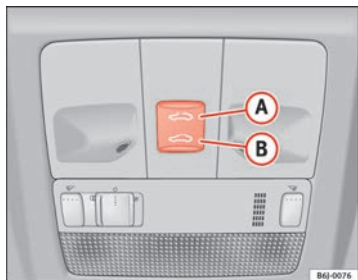

Fig. 50 Panorama/tilting sunroof
- Press and hold button **B** ⇒ fig. 50 ⇒ ⚠. The roof starts to close until the button is released.